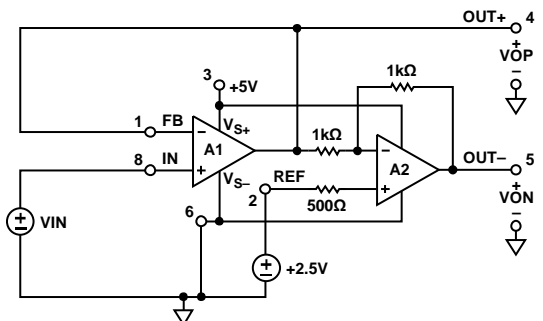
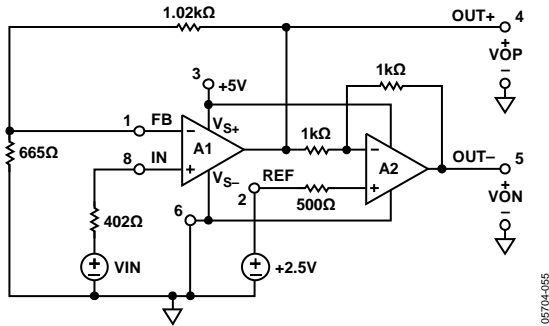

Figure 49. Single +5V Supply, G=2 Single-Ended-to-Differential Amplifier
Figure 50. 5 V Supply, G = 5, Single-Ended-to-Differential Amplifier
Figure 49 shows a single 5 V supply connection with A1 used as a unity gain follower. The 2.5 V at the REF pin sets the output common-mode voltage to 2.5 V. The transfer function is then
In this case, the linear output voltage is limited by A1. On the low end, the output of A1 starts to saturate and show degraded linearity when VOP approaches 200 mV. On the high end, the input of A1 becomes saturated and exhibits degraded linearity when VIN moves beyond 4 V (within 1 V of VCC). This limits the linear differential output voltage in the circuit shown in Figure 49 to about 7.6 V p-p.
Figure 50 shows a single 5 V supply connection for G = 5. The  $R_F$  and  $R_G$  network sets the gain of A1 to 2.5, and the 2.5 V at the REF input provides a centered 2.5 V output common-mode voltage. The transfer function is then
The output range limits of A1 and A2 limit the differential output voltage of the circuit shown in Figure 50 to approximately 8.4 V p-p.
Table 7, Table 8, and Table 9 show typical error budgets for the circuits shown in Figure 48, Figure 49, and Figure 50.
**Table 8. Output Voltage Error Budget for Amplifier Shown in Figure 49**
**Table 9. Output Voltage Error Budget for G = 5 Amplifier Shown in Figure 50**
Table 10, Table 11, and Table 12 show the noise contributions and output voltage noise for the circuits in Figure 48, Figure 49, and Figure 50.
**Table 11. Output Voltage Noise, G = 2 Differential Amplifier Shown in Figure 49**